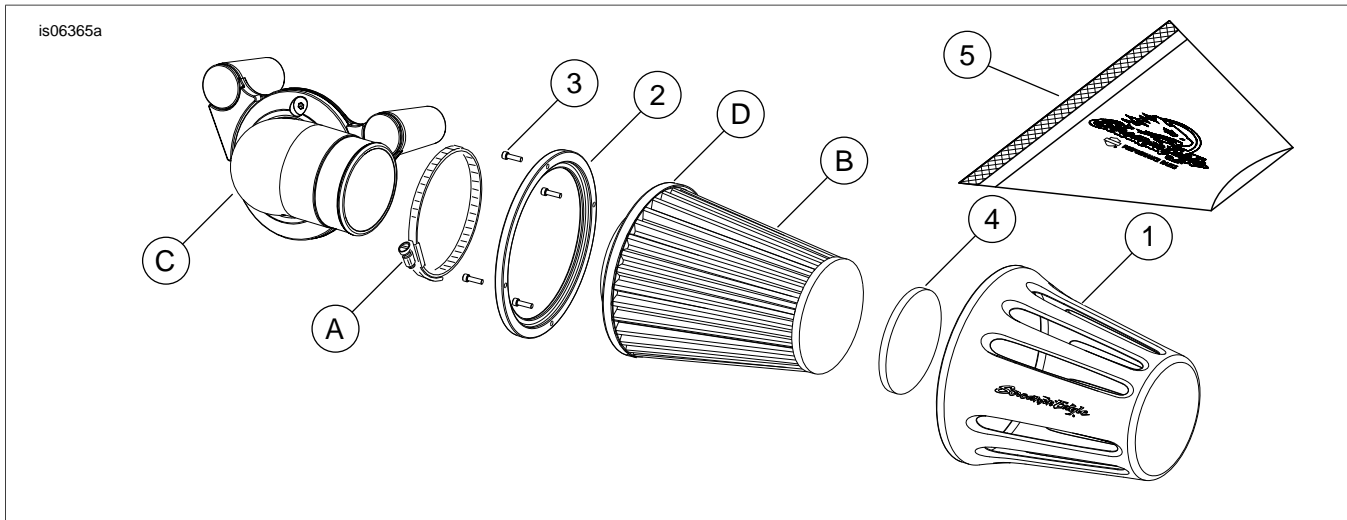

Figure 1. Service Parts Table
See Figure 1 and Table 1.
3. See Figure 1. Loosen the band clamp (A) and pull the air filter (B) off of the intake tube (C).
6. See Figure 1. Remove the adhesive backing and place the foam circle (4) inside of the small end of the decorative cover.
7. With the filter element removed and cleaned, place the decorative cover (1) over the filter element (B). The band clamp cover (D) must be in place to make sure the decorative cover fits properly.